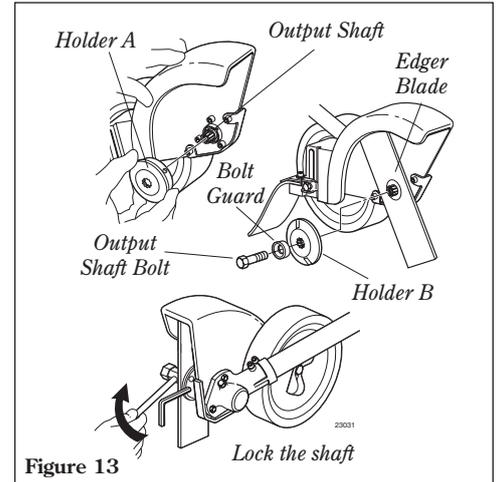

Figure 13
1. Install holder A onto the output shaft. See Figure 13.
3. Align the hole in holder A with the matching hole in the gearcase, and then use the hex wrench to temporarily lock the output shaft as shown. See Figure 13.